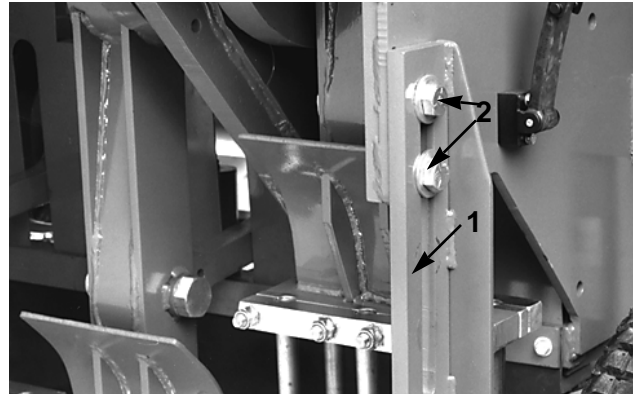

Figure 1
1. Loosen the capscrews securing both height adjusters (Fig. 1). Raise the adjusters until the bolt bottoms out in the slot.